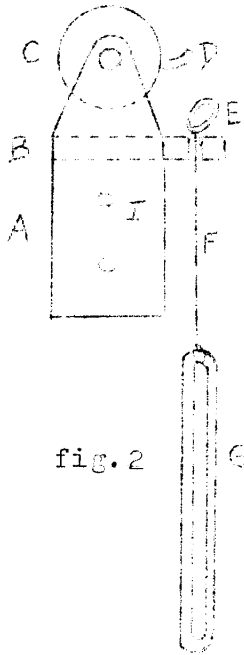
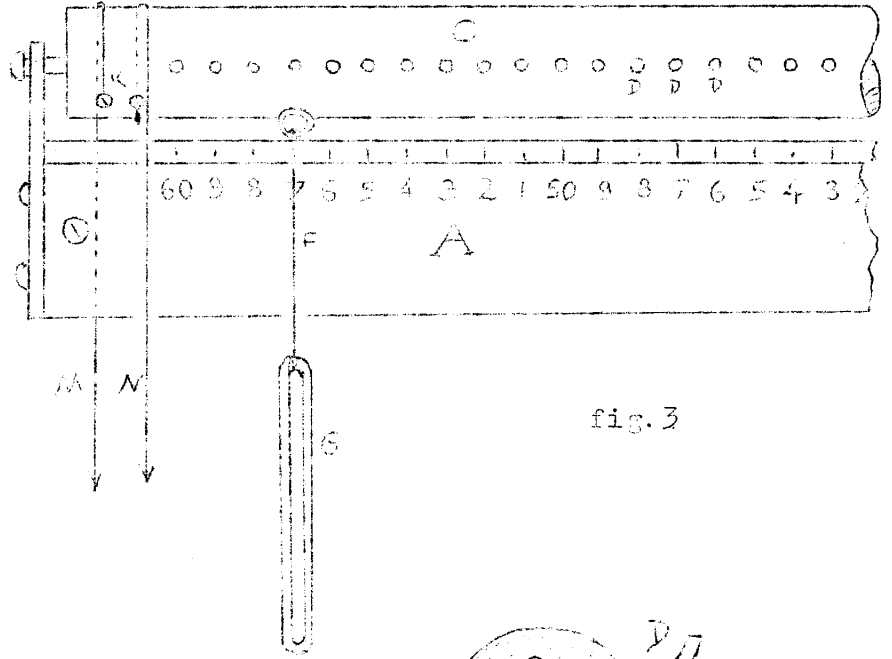
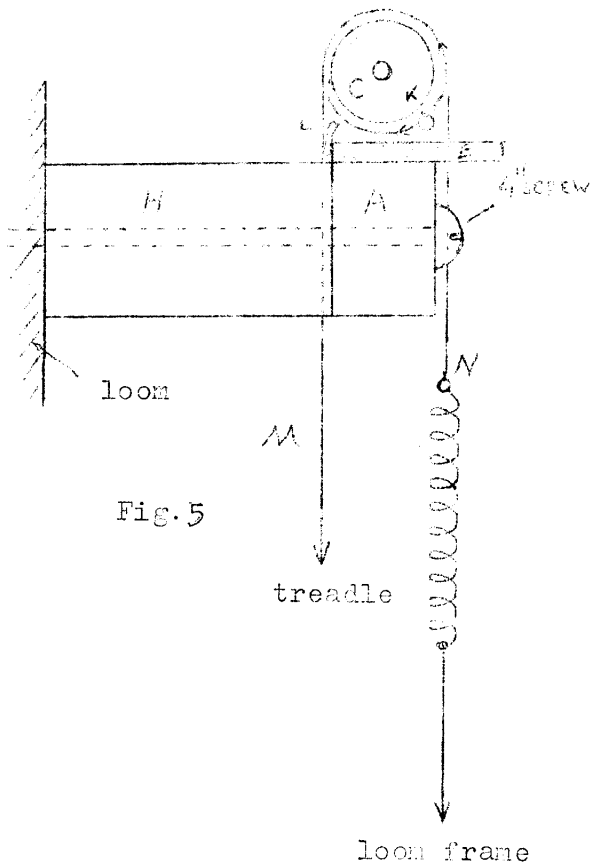
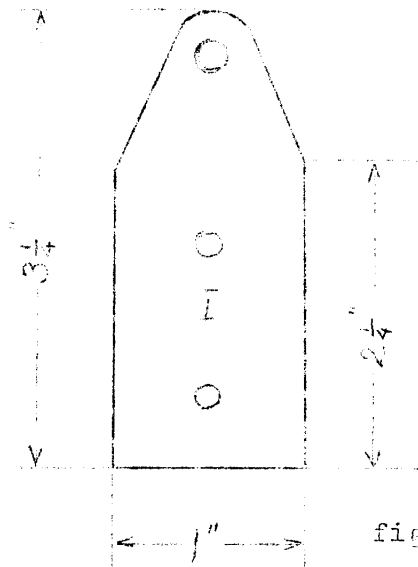

fig. 2
fig. 3
Fig. 5
fig. 6
The construction of the pattern harness is shown on fig.2 and 3. The heddles are made of heavy copper or brass wire about .080" in diameter, and  $3\frac{1}{2}$ " long (g - fig.2 and 3). The best way of making a quantity of them (at least 108 for a 36" loom) is to cut a piece of iron sheet  $3\frac{1}{2}$ " wide and a foot or so long, and then wind the copper wire around it. The wire must be straight and soft (it can be softened by heating it with a blow torch) and we shall need up to 100 feet of it.
The cumber board is screwed to a piece of  $1\frac{1}{2} \times 2$ " (or thereabout) made of any hardwood or even good pine. This piece (a) must be long enough to reach from one upright supporting the loom's harness to the other, and is fixed to these uprights with only two long and heavy screws passing through two pieces of wood  $1\frac{1}{2} \times 2 \times 3$ " (W fig.5). On top of the cumber board support (a) there is a roller (c) as long as the support and about 1" to  $1\frac{1}{4}$ " in diameter. It rotates on two steel plates (I figs.2 and 6)  $\frac{1}{8}$ " thick. They can be replaced with hardwood boards about  $\frac{1}{2}$ " in thickness, and other dimensions as in fig.6. These plates are screwed to the cumber-board support (a). The top hole should be slightly larger than the diameter of screws set in the roller. These screws should be about 2 or  $2\frac{1}{2}$ " long and well centered in the roller.
On the left hand side of the roller one quarter turn below the nails we shall have two small screws (k figs.3 and 5) to which two cords will be attached: one going anti-clockwise to a treadle which will operate this harness, and another going clockwise (N) to a spring (screen door spring) attached to the loom frame. A stop (L fig.5) made of a piece of soft steel will prevent the roller from turning too far and thus dropping all heddles.
This is all, or nearly so. The last thing to do is to mark numbers opposite each hole in the cumber board. Since most patterns are symmetrical it may be as well to mark the central hole (half way the length of the loom) as "0" and go in both directions with consecutive numbers: 1,2,3,4,5,6,7,8,9,10,1,2,3,4, and so on (fig.3).
We start weaving with the ground, which is woven as if the pattern harness were not there. As long as the roller is not turned the pattern heddles do not interfere with plain weaving, whether the heddles are already hung on the roller or not. When it comes to the first line of pattern we select the proper heddles according to our drawing, and press the pattern treadle. This is tied to the roller by the cord "M" (fig.3) and it raises all the pattern heddles hung on the roller. Now one or several shots of pattern are made. If there is binder between the shots of pattern, the roller is lowered for each shot of binder by releasing the pattern treadle (gently!). The spring attached to the cord (N) will pull the roller to its neutral position. When one block is finished and another is to be woven, some of the heddles are unhooked from the roller and others attached to it. When all heddles attached to the roller are to be replaced, the pattern treadle should be released suddenly - this will result in all the heddles being detached from the roller.